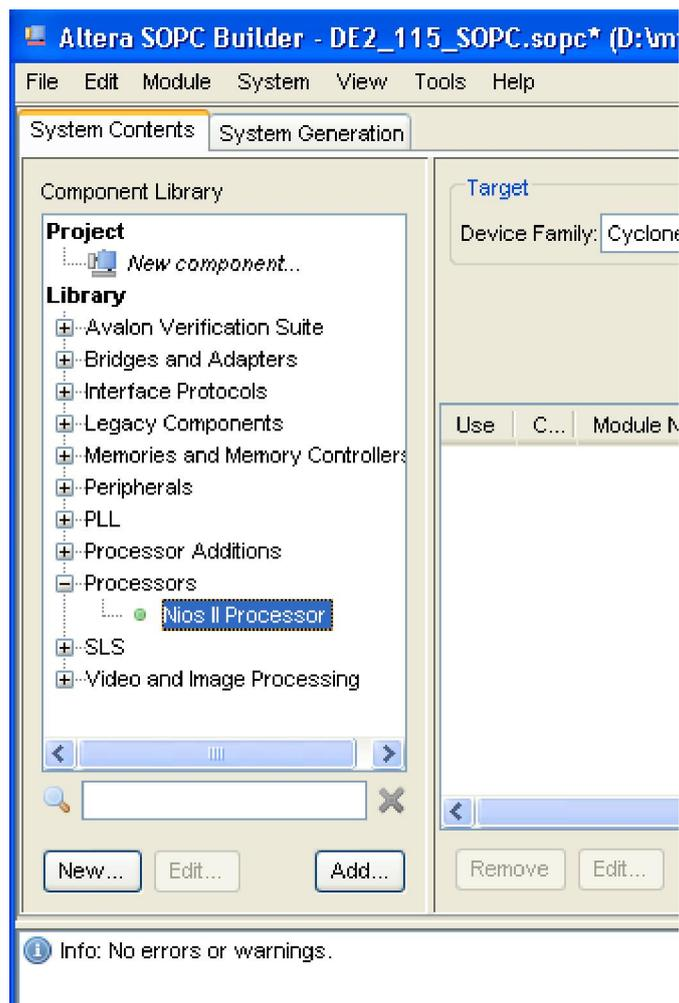
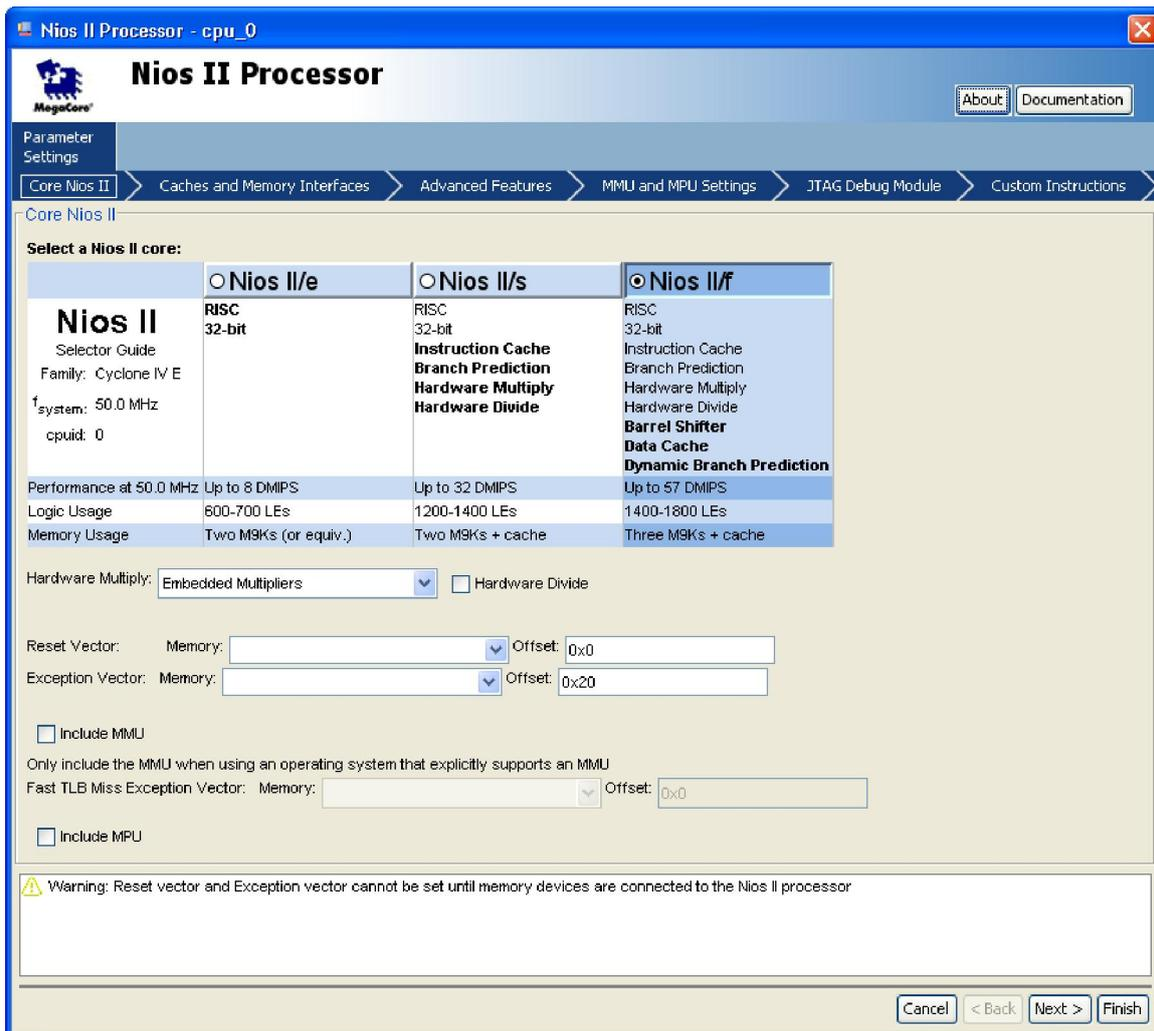

Figure 1-14 Add Nios II Processor
Figure 1-15 Nios II Processor
8. Choose **Library > Processors > Nios II Processor** to open wizard of adding cpu component. See **Figure 1-14** and **Figure 1-15**.